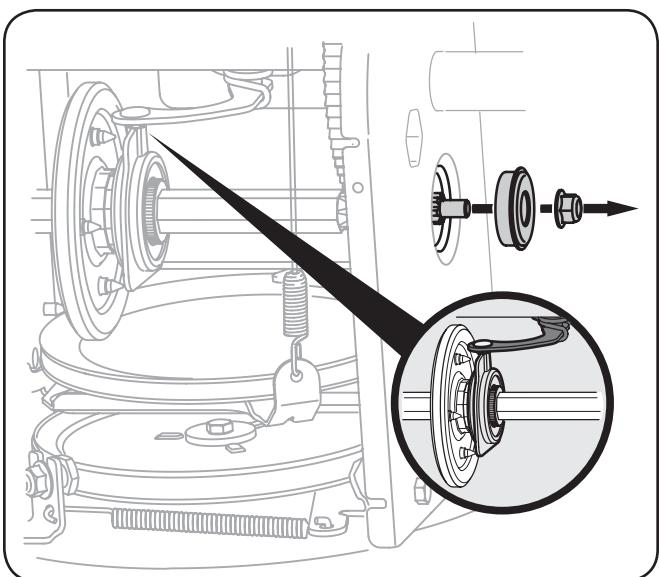

Fig. 7-10
5. Carefully remove the hex nut which secures the hex shaft to the snow thrower frame and lightly tap the shaft's end to dislodge the ball bearing from the right side of the frame. See Fig. 7-10.
NOTE: Make sure the shift lever pin is in place in the bearing housing. See Fig. 7-10 inset.